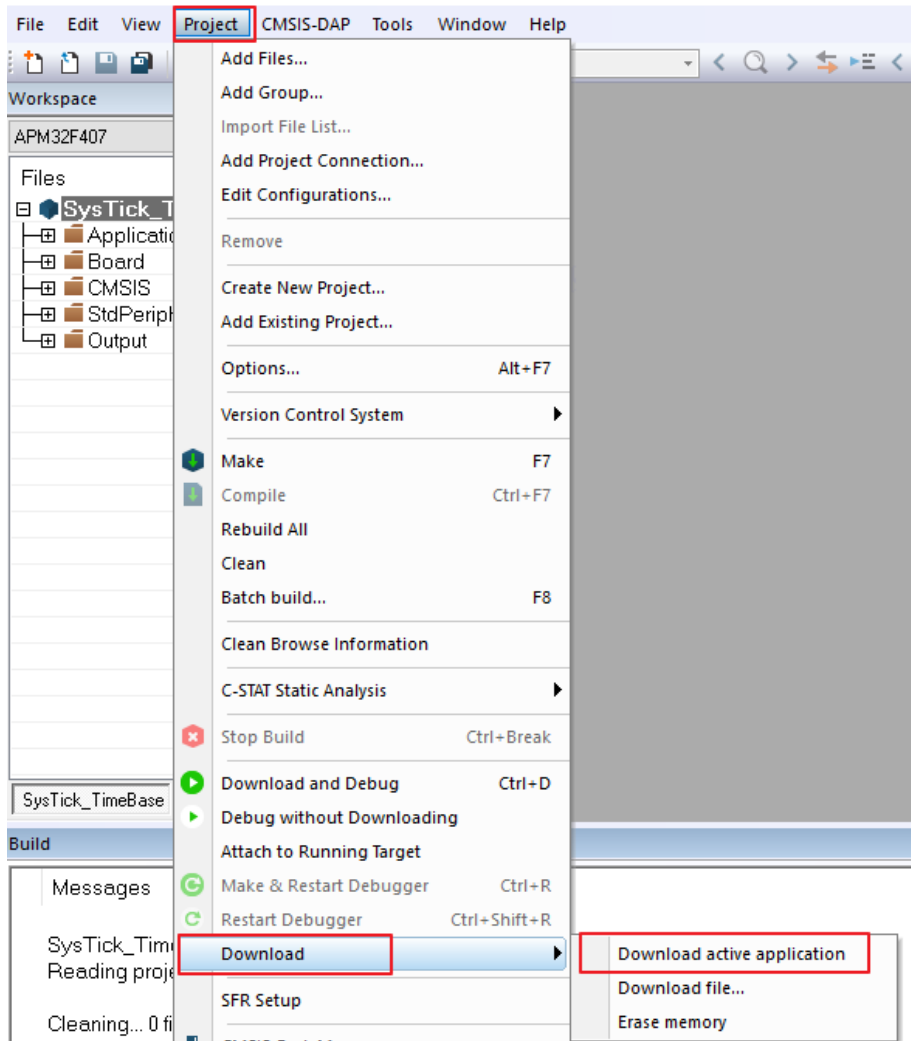

Figure 15
- c) After the previous steps are completed, we can download the compiled program to the development board and run it. As shown in Figure 15, in the download process, you only need to select Download in the Project option of IAR and click the download active application button to download the program. After resetting the development board, you can see the experimental phenomenon of the routine.